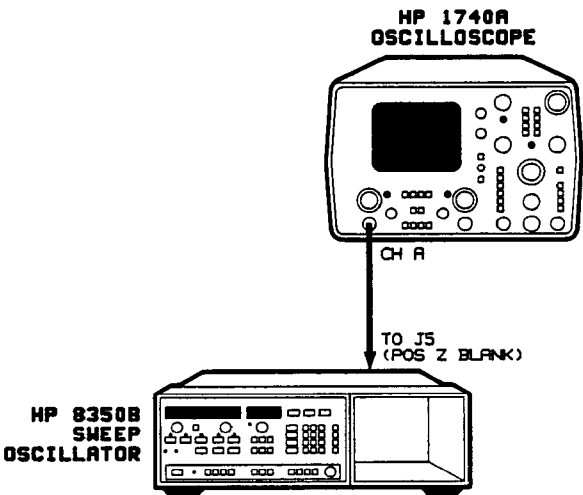

Figure 5-16. Marker DAC Adjustment Setup
- 5. Position the sweep oscillator upright as shown in Figure 5-16 and remove top cover.